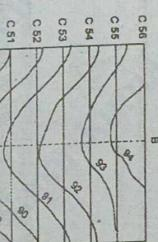

Fig. 3. Locating the Contours by Cross - Section
1. By cross - section (Fig. 3) : This method is most commonly used in route survey such as a road, railways, canal etc. A longitudinal line is run along the center line of a proposed route. Cross - sections are laid at right angles to the above line.